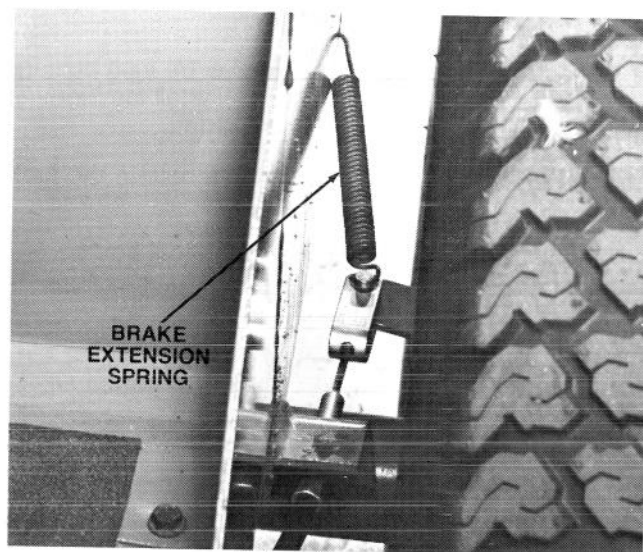
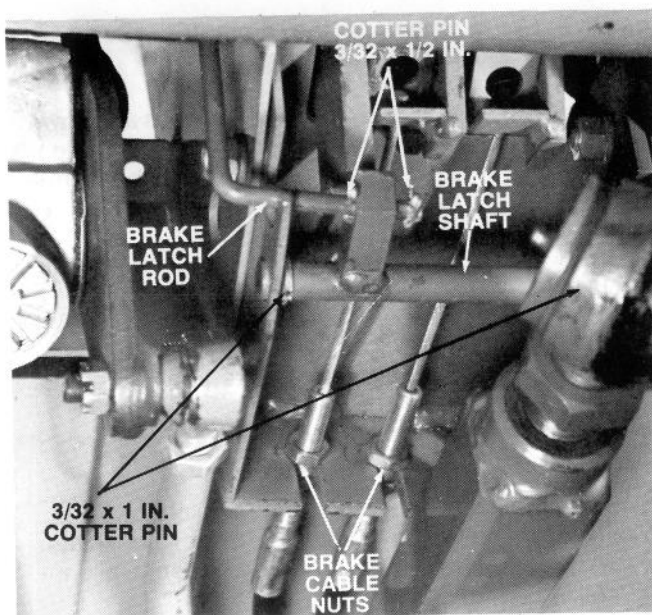
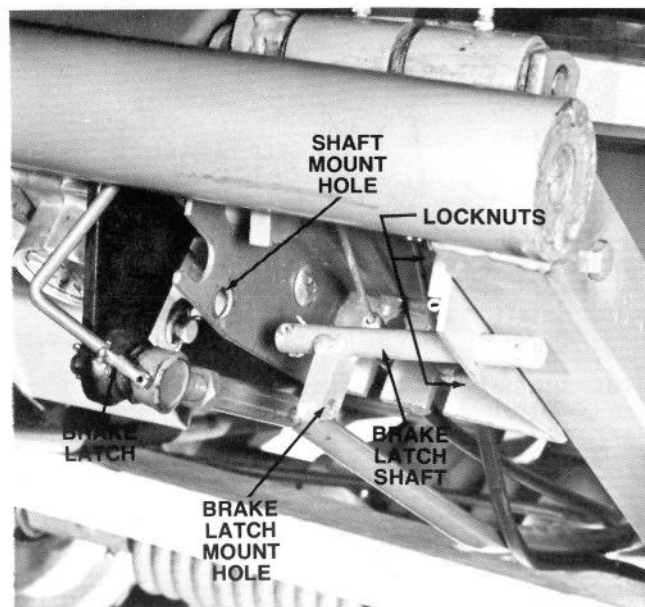
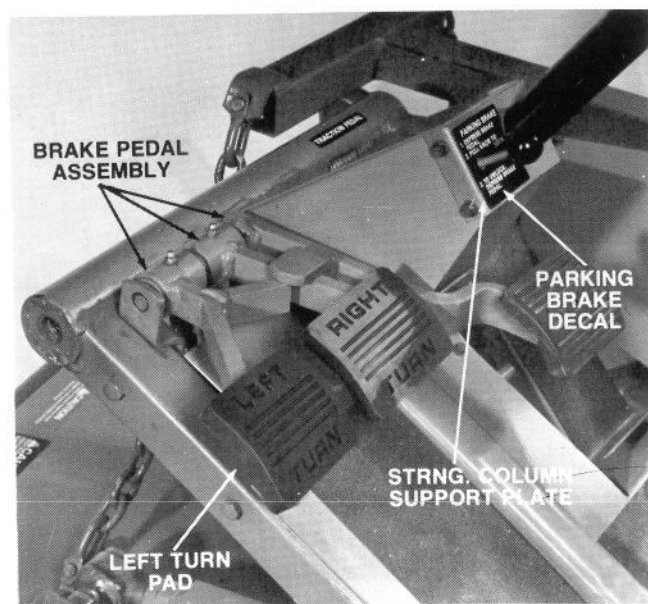

Figure 8
Figure 9
Figure 11
Figure 10
3. Unhook brake tension springs from holes in frame behind drive wheels (Fig. 8), loosen brake cable adjustment nuts and remove brake cables from brake pedals (Fig. 9).
5. Install new brake pedal assembly (Fig. 10), brake cables and pedal pads. Hook the brake extension springs on the cable ends on the drive wheel end of cables (Fig. 8). Install locknuts on left hand mounting bolts (Fig. 11).
7. Install a 3/32 x 1 inch cotter pin in the right hand hole in parking brake latch shaft, insert the left end of latch shaft into mount hole far enough to allow right end to be inserted into right hand mount hole. Secure shaft by installing cotter pin in left hand shaft hole, insert brake latch into shaft mounting hole and secure by installing two (2) 3/32 x 1/2 inch cotter pins (Fig. 11).